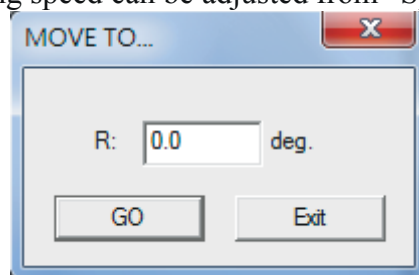

Fig. 1.7.29
1. Click “MOVE TO...” button and input the degree value in the dialog box like Fig.1.7.29 and click “GO,” the rotary axis will rotate to that specific angle. The rotating speed can be adjusted from “Speed” parameter.